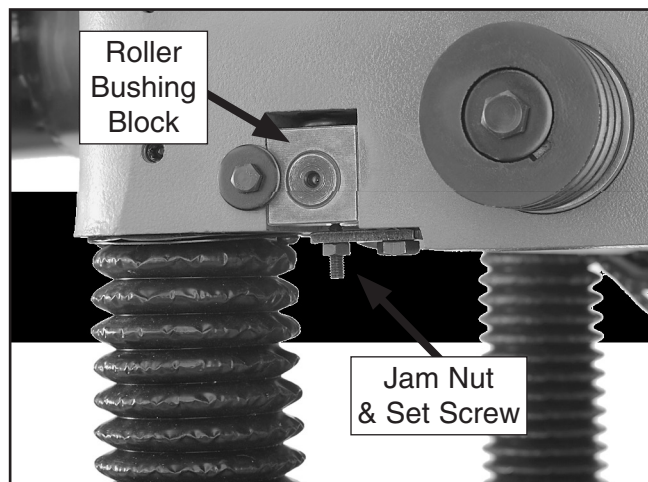

Figure 38. Infeed roller bushing block and height adjustment controls.
7. Loosen the jam nut and use the set screw shown in **Figure 38** to adjust the height of the infeed roller bushing block until the Rotacator dial shows 0.040", which is the recommended distance for the infeed roller below the cutterhead.